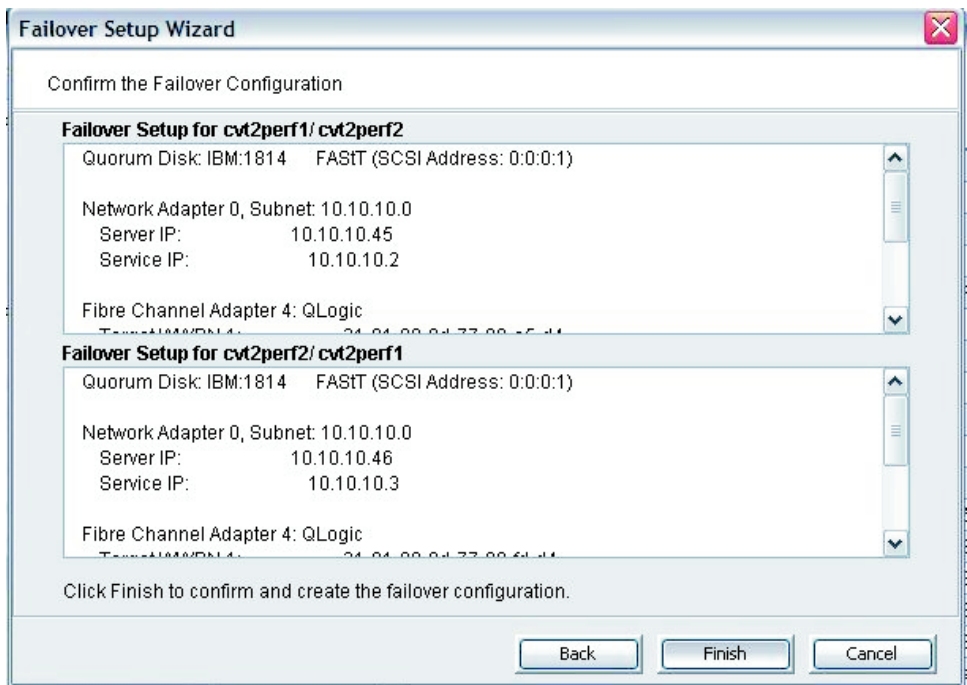

Figure 28. Confirm the Failover Configuration window
14. __ In the Confirm the Failover Configuration window (Figure 28), verify that the entered information is correct and click **Finish**.